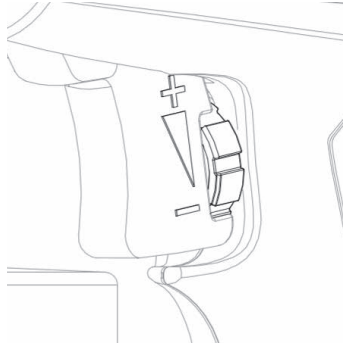

Fig.5
4) Adjusting the Material Volume (Fig. 5)